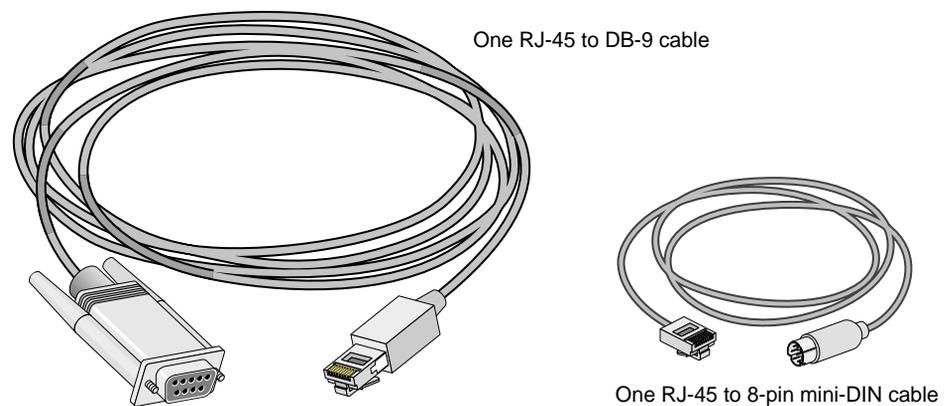

Figure 5-2 Items Needed to Connect an SGI Origin 200 Server to an SGIconsole
5. Make sure that you have the following items (shown in Figure 5-2):